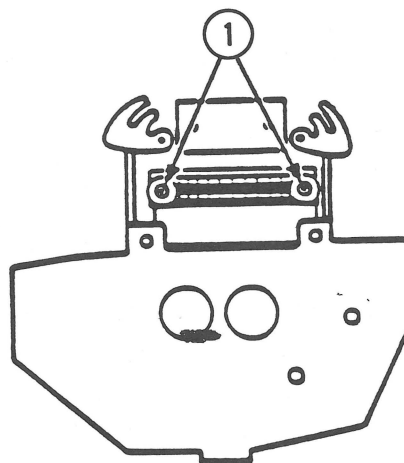

FIGURE 31
21. Replace the two screws (Figure 31, #1) that secure the print head connector.